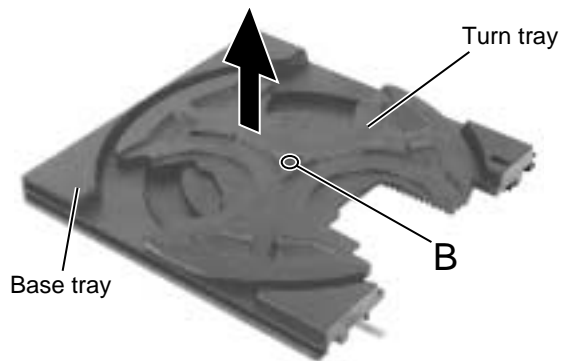

Fig.6
■Removing the turn tray motor (See Fig.6 and 7)